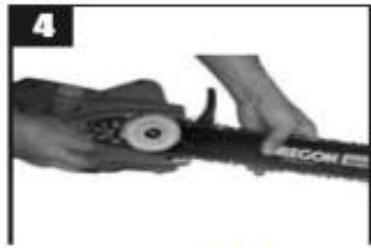

Fig. 5
4). Fit the chain bar onto the drive sprocket (11) and fastening bolt, and assemble safety guard. (See Fig. 5)